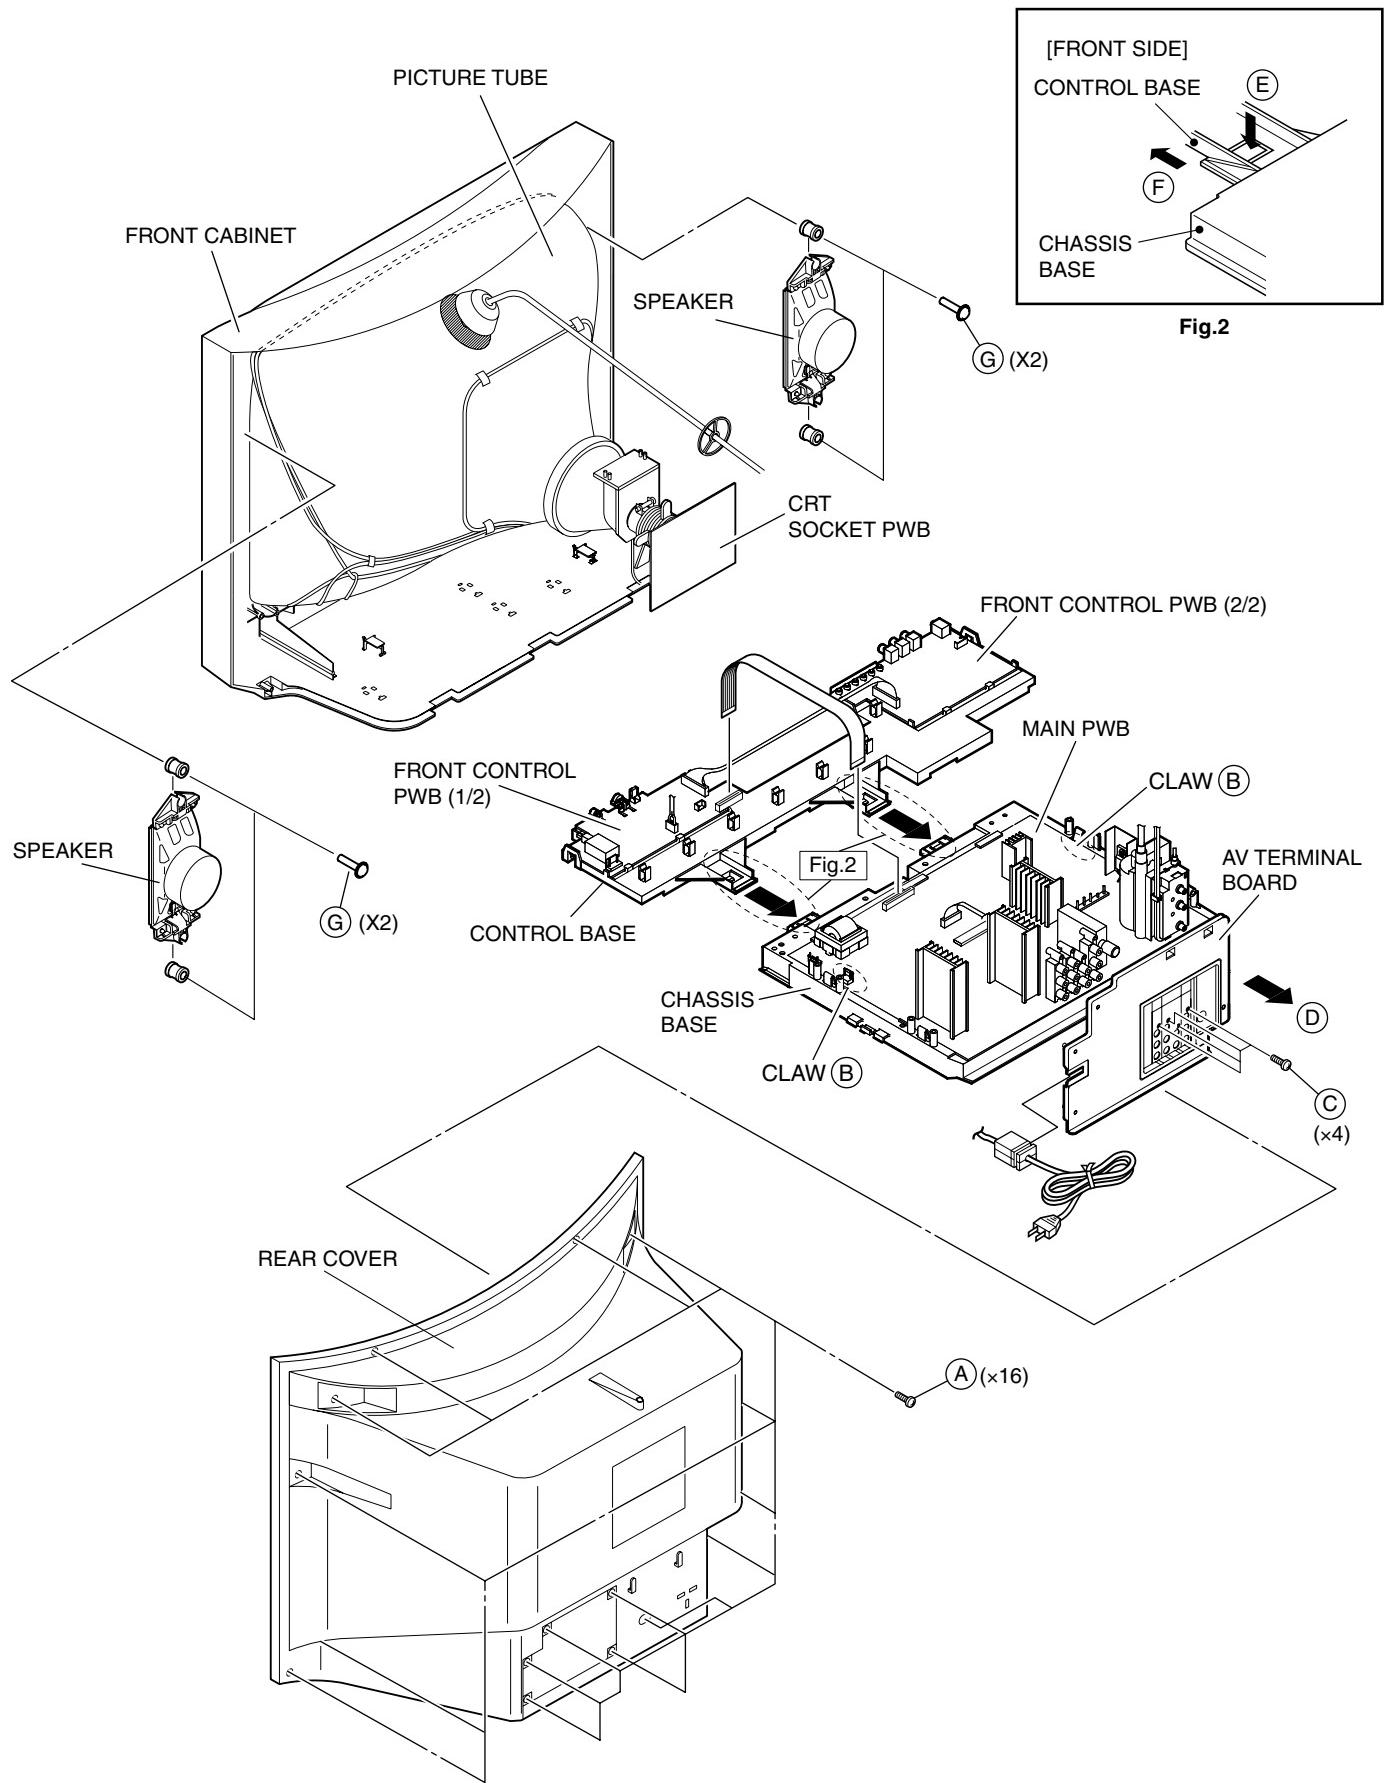

Fig.1
1. Slightly raise the both sides of the chassis by hand and remove the 2 claws marked **(B)** under the chassis from the front cabinet as shown in Fig.1.
1. Remove the 4 screws marked **(C)** as shown in Fig.1.
2. When you pull out the AV Terminal board in the direction of arrow marked **(D)** as shown in Fig.1, it can be removed.
1. Remove the 2 screws marked **(G)** as shown in Fig.1.